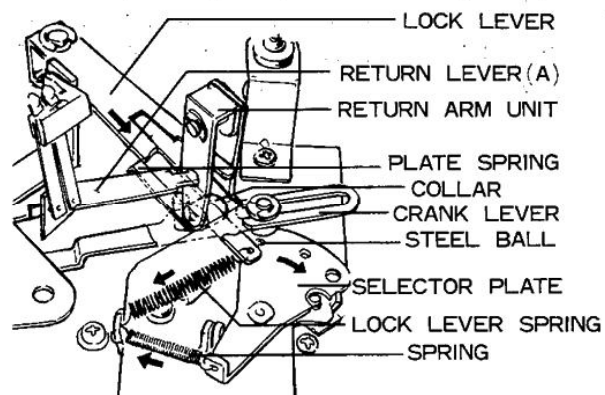

Fig. 11
- When the STOPPER is pushed counterclockwise, the STOPPER LEVER pushed the CAM LEVER, which in turn pushes the RETURN LEVER UNIT (B).
- By the motion of the RETURN LEVER UNIT (B), the RETURN LEVER (A) which is connected with the RETURN LEVER UNIT (B) moves in the direction indicated by the arrow in the figure 11. Along with the motion of the RETURN LEVER (A), the RETURN ARM UNIT moves and is locked by the LOCK LEVER which has been kept pulled by the LOCK LEVER SPRING.
- The ROTATOR PLATE UNIT (A) and the ROTATOR PLATE (B) turn slowly clockwise and the ELEVATOR SHAFT is pushed up by the raised portion of the ROTATOR PLATE (B), thus the tonearm rises off the record face.